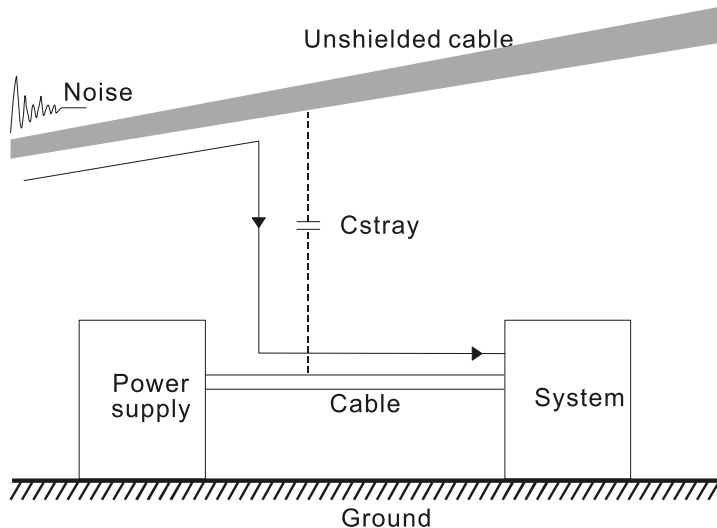

Figure A-2
- Common-mode noise in the power cable is transmitted through the stray capacitance and coupled into the adjacent signal cable, as shown in Figure A-2. Several methods can be applied to reduce the effect of this common-mode noise; for example, shield the power cable and/or the signal cables, separate the power and signal cables, take the input and output side of the signal cable and twist them together to balance out the stray capacitance, let power cables and signal cables cross at 90°, etc.